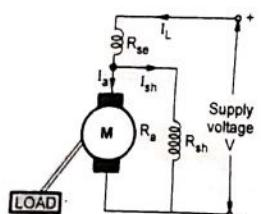

Fig. 8.5.5 (a) Short shunt compound motor
- In this type, the shunt field is connected purely in parallel with armature and the series field is connected in series with this combination shown in the Fig. 8.5.5 (a).